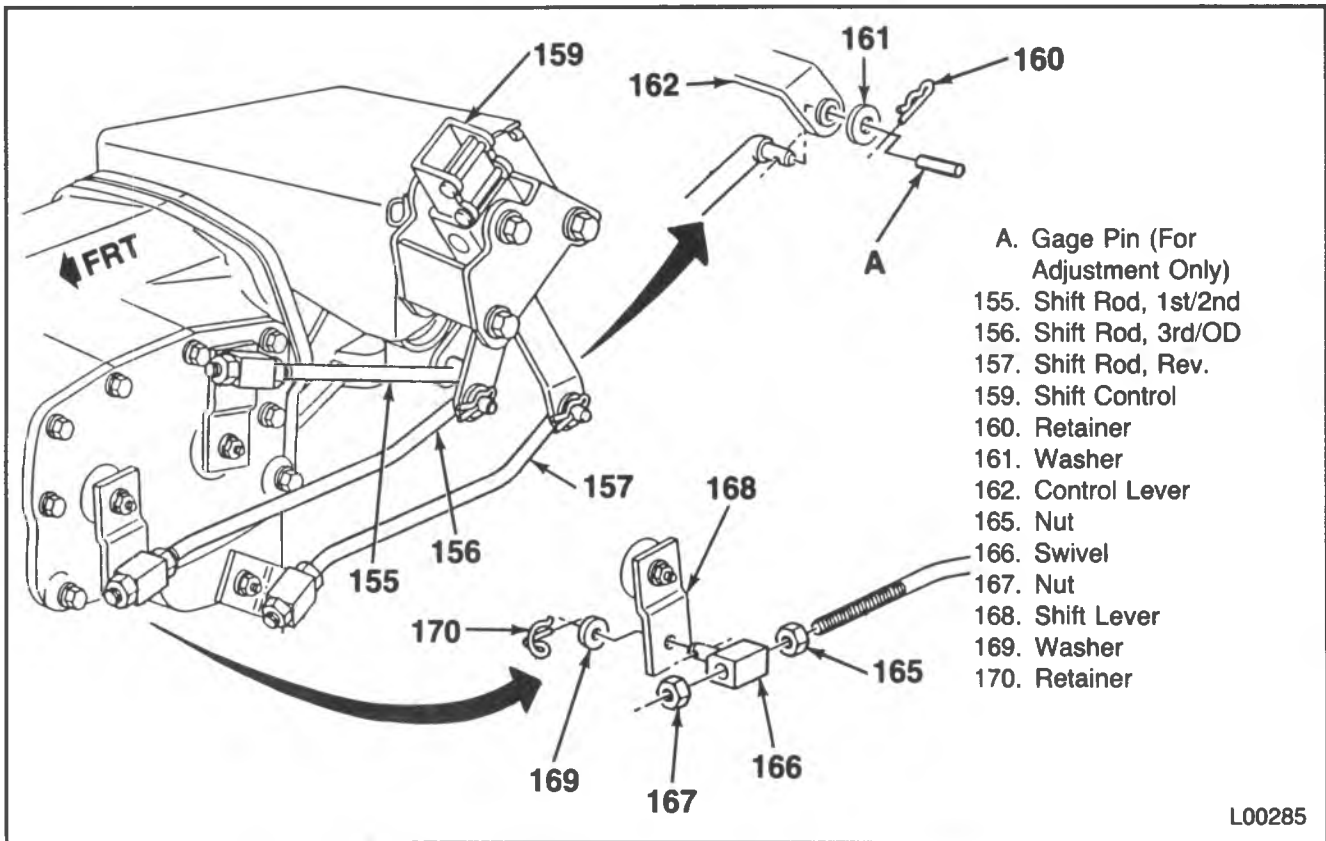

Figure 5 — Floor Shift Linkage (89MM 4 Speed OD)
Remove or Disconnect (Figure 5)
Install or Connect (Figure 5)
Adjust (Figure 5)
1. Knob (175) and the nut (176).
2. Screws (186) and the boot (178).
3. Shift control lever (158).
4. Shift rods at the control (figure 5).
5. Screws (183) and the fitting (184).
- The screw with the large shoulder is a locating screw and must be installed in the rear-center hole (A).
- The lubrication fitting must point to the corner shown (A).
6. Shift rods at the control (figure 5).
7. Shift control lever (158).
8. Boot (178) and the screws (186).
9. Nut (176) and the knob (175).
2. Harnesses (206) as used.
3. Shift rods (figure 5).
4. Nut (202), the washer (201) and the reverse shift lever (200).
5. Seal (209).
6. Screws (212), spring washers (213) and the brackets (214).
7. Side cover (205).
5. New seal (209).
6. Reverse shift lever (200), the washer (201) and the nut (202).
7. Shift rods (figure 5).
8. Harnesses (206) as used.